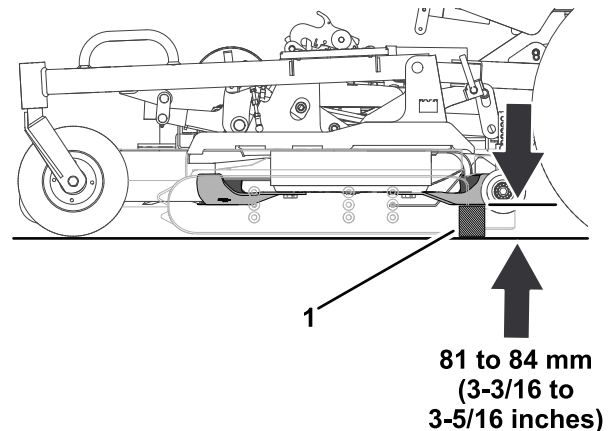

Figure 127
5. Measure the distance between the ground and the rear-most point of the blade cutting edge with a gauge block (Figure 127).